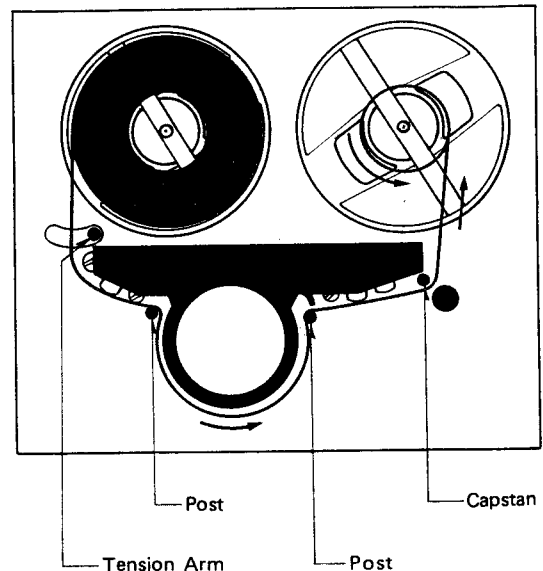

Fig. 5
3. Unwind two feet or so of tape from the full reel. Hold the unwound portion of tape with both hands, and thread it exactly as shown in Fig. 5.